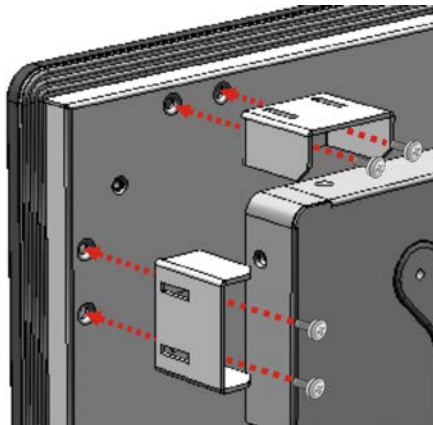

Figure 3-30: Secure the Mounting Clamp Holders
Step 1: Secure the mounting clamp holders to the corresponding holes on the rear of the monitor (**Figure 3-30**).